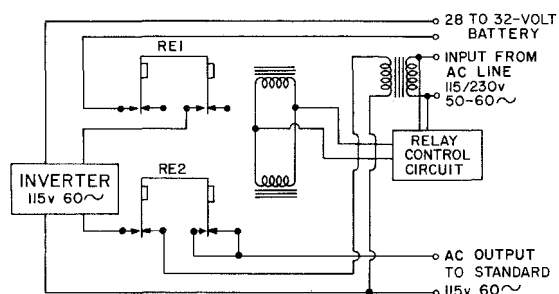

Figure 3. Elementary Schematic Diagram for Type 1116-B.
2.1 GENERAL. (See Figure 3.) Upon failure of the 115/230-volt ac line voltage, the relays in the Emergency Power Supply: